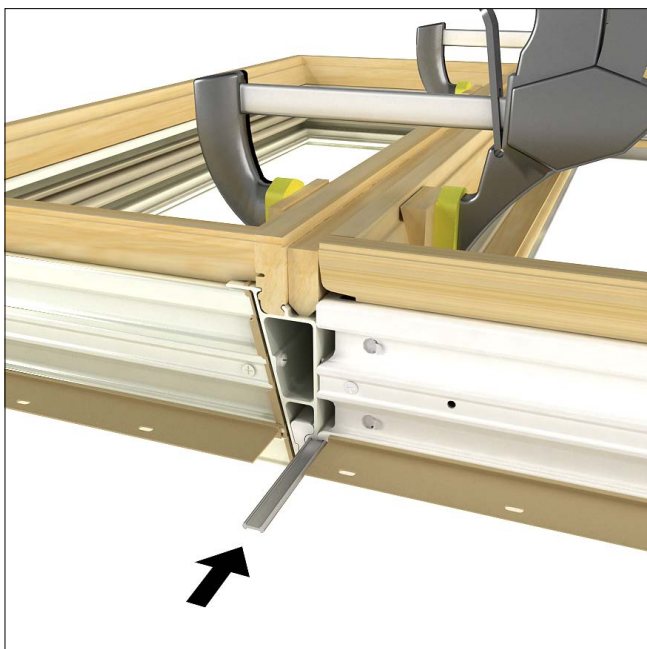

Figure 12
- Slide the mulling pin in the full length of the mullion. A hammer may aid in the application of the mull pin. The mull pin ends must be recessed 1/4" (6) to allow sealant application later. See figure 12.